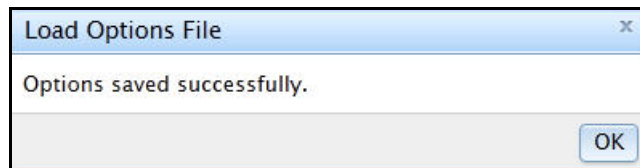

Figure 34. Load Options File Status Box
5. Click Load. The Load Options File status box (Figure 34) appears upon completion.